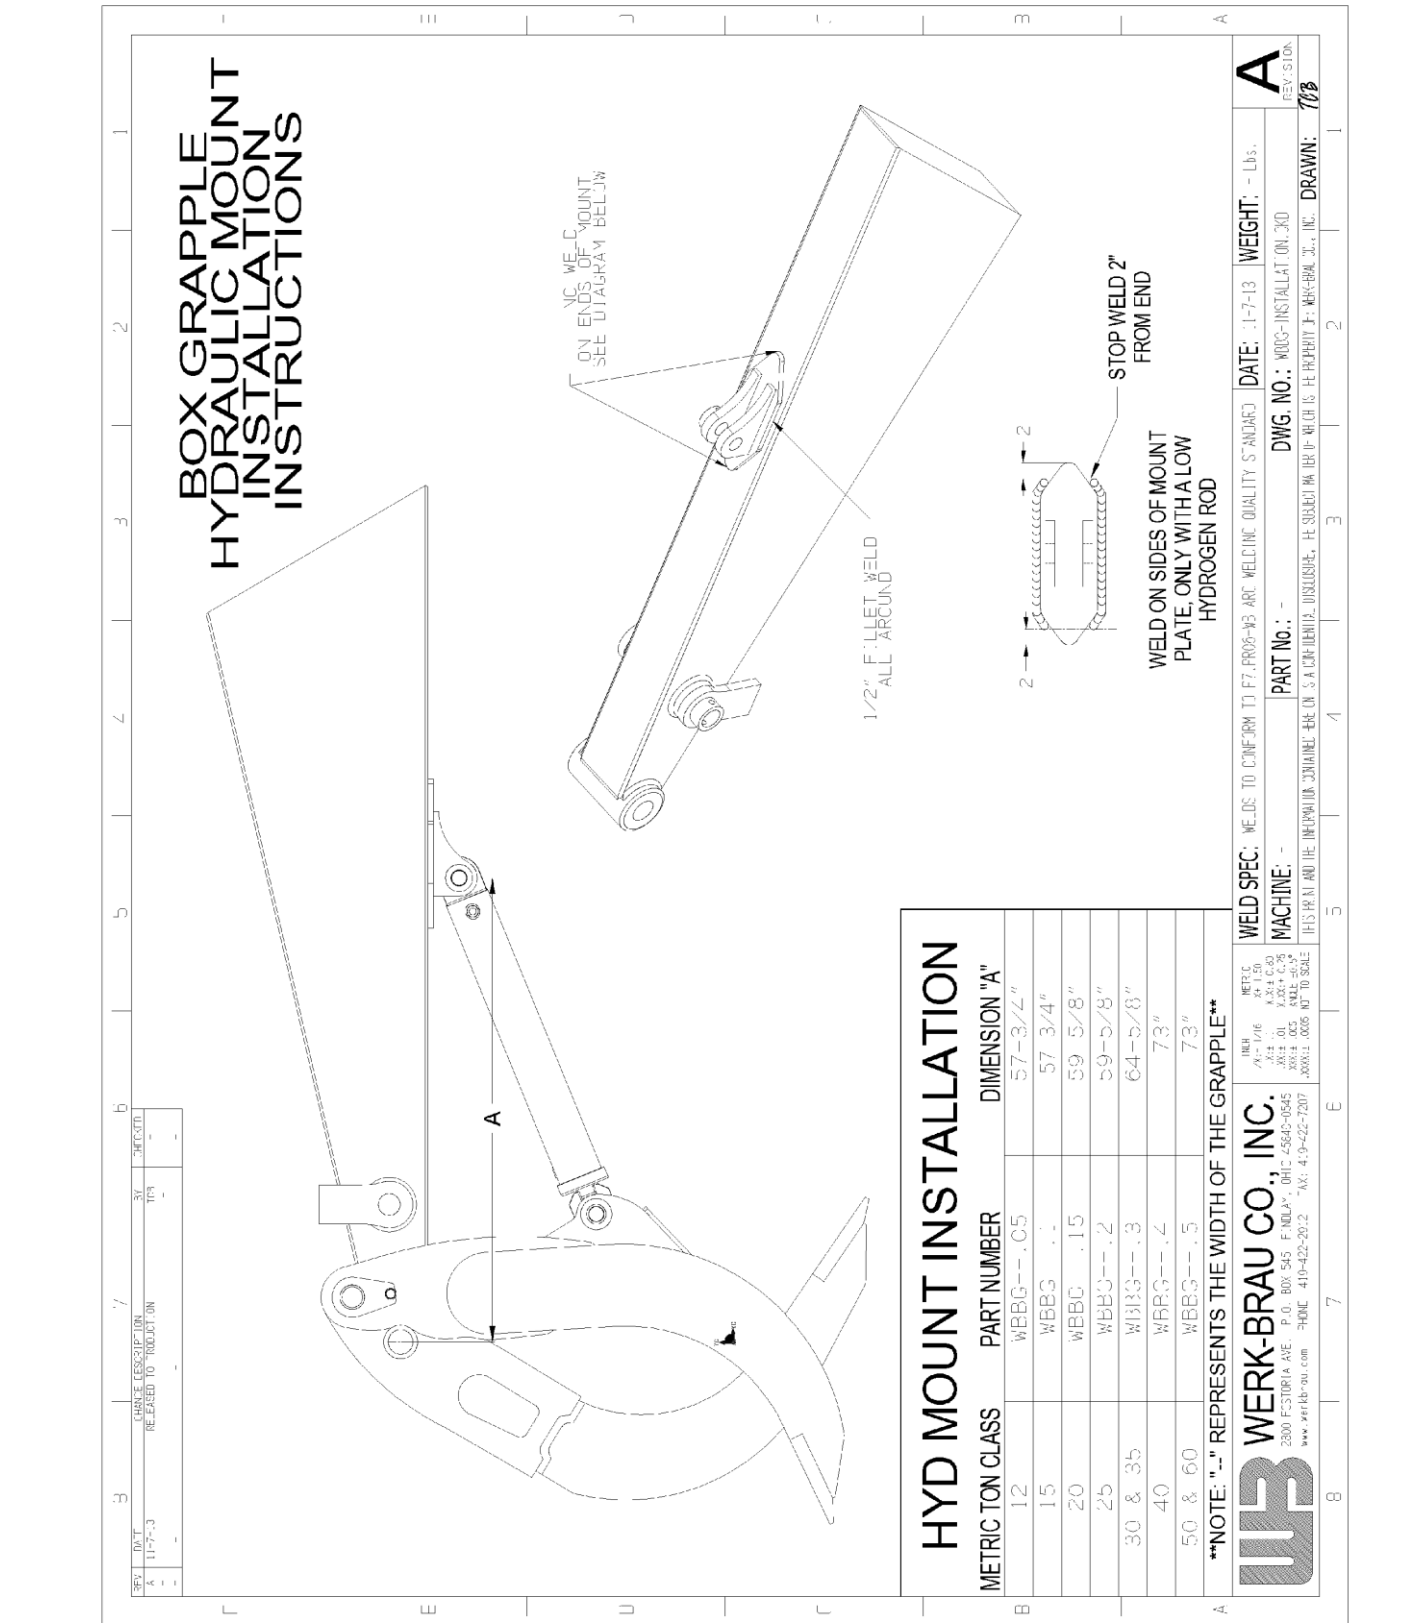

Figure 1: Hydraulic Mount Instructions
2. Figures 1 and 2 on the following pages should be used to set the mount on the stick. Use Figure 1 for the hydraulic option and mini grapples. Use Figure 2 for EXC full sizes rigid option.
6. Upon approval, weld the mount bracket to the stick with a low hydrogen rod according to Figures 1 and 2. Be sure to clean the weld area before welding.